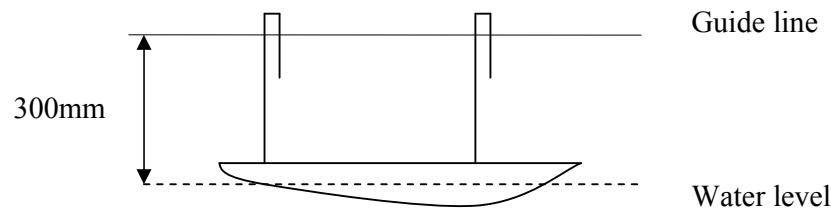

Figure 1
1. The maximum boat length including any front and rear projections, shall be 550 mm to ensure that the boat fits behind the starting line. (see Figure 1 below)